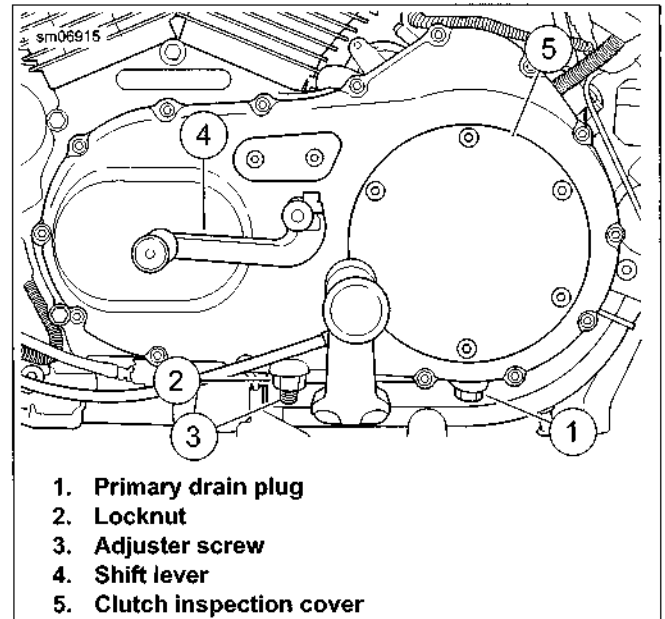
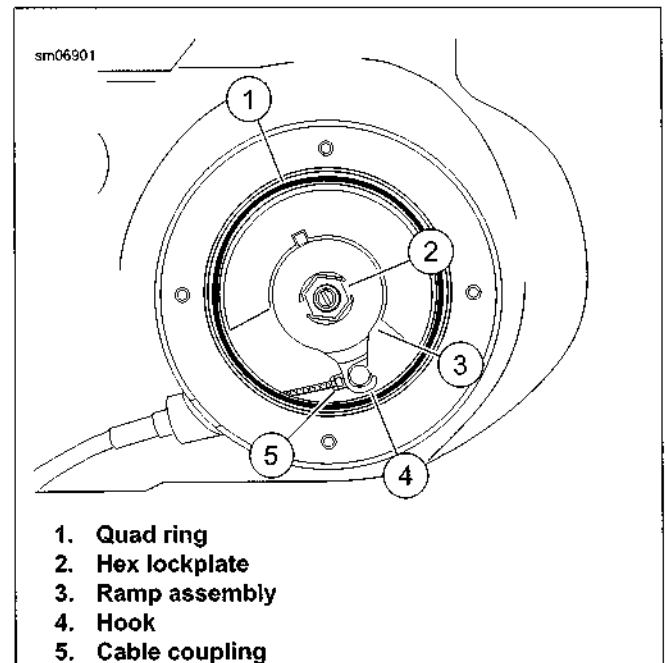
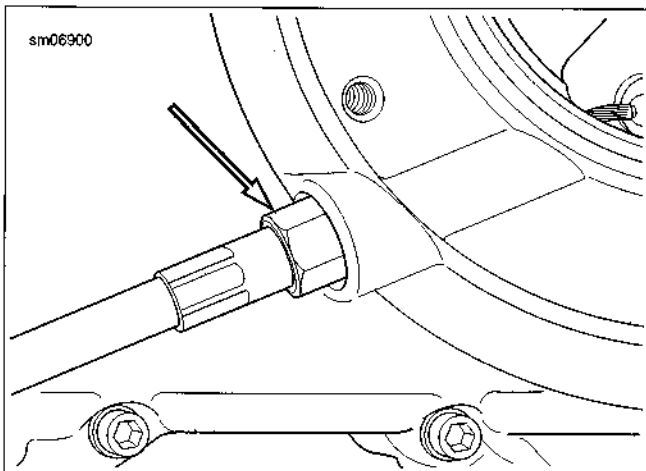

Figure 5-1. Primary Cover
Figure 5-2. Clutch Release Ramp
Figure 5-4. Clutch Cable Fitting
3. See Figure 5-1. Place a drain pan under motorcycle. Remove drain plug (1) and drain lubricant from primary drive housing.
4. Loosen locknut (2). Turn chain adjuster screw (3) counterclockwise to relax primary chain tension.
5. Remove gear shift lever (4) and rubber washer from transmission shifter shaft.
7. Remove clutch inspection cover (5).
8. See Figure 5-2. Remove quad ring (1) from groove in primary cover. Discard quad ring.
9. Remove hex lockplate (2) and attached spring from flats of adjusting screw.
10. Turn adjusting screw clockwise to release ramp assembly (3) and coupling mechanism. As adjusting screw is turned, ramp assembly moves forward. Remove nut from end of adjusting screw.
11. Remove hook (4) of ramp (3) from cable coupling (5). Remove clutch cable end from slot in coupling. Remove coupling and ramp assembly.
12. See Figure 5-4. Turn cable end fitting counterclockwise to remove clutch cable lower section from primary cover. Remove and discard O-ring from cable end fitting.